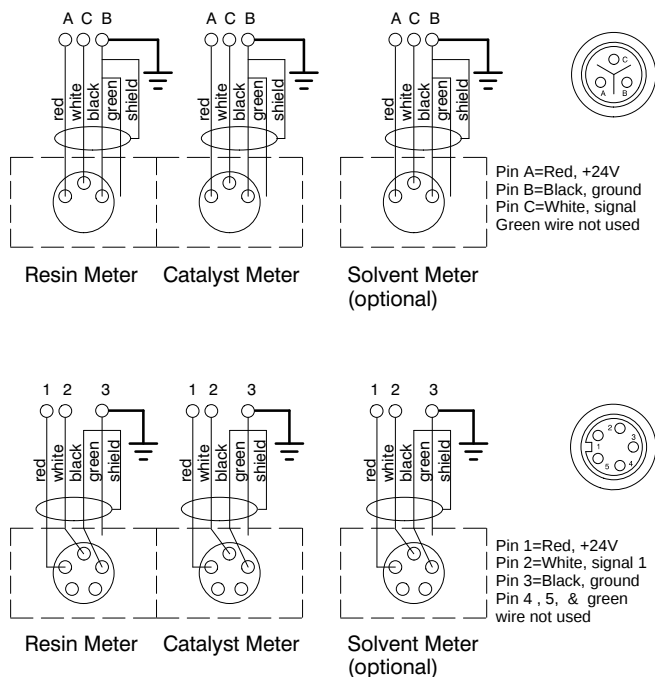

Fig. 4
Meter cables must be connected as shown in Fig. 4. Failure to properly connect the grounded conductor and shield may cause incorrect signals.
-  5 Flow Meter Cable; connect as shown in Fig. 4